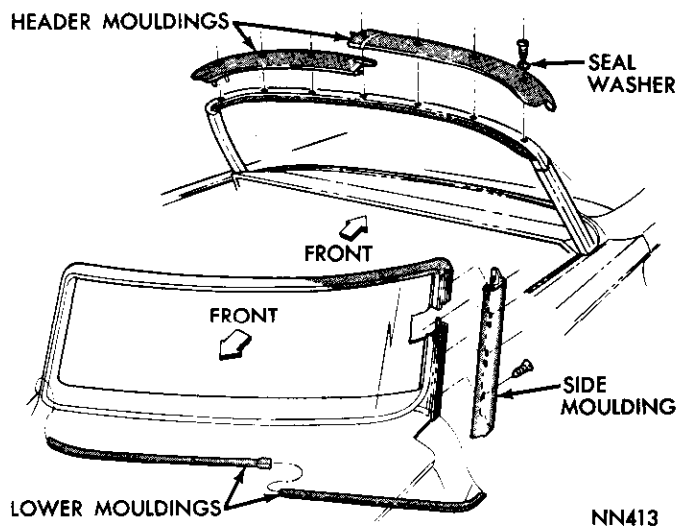

Fig. 4—Windshield Mouldings (Coronet)—(Convertible)
(1) Cover cowl, hood and fender area with a protective covering.
(2) Release top locking mechanisms and push header from windshield frame to expose moulding retainer screws.
(3) Remove wiper arms and blades.
(4) Remove windshield outside mouldings (Fig. 4).
(5) Remove inner "A" post side mouldings.
(6) Remove sun visors and screws attaching header trim cap to header.
(7) Pry header moulding up slightly to clear moulding from weatherstrip, disengage from header and remove.
(8) Remove windshield in same method as other models.
(1) Position header cap moulding up against weatherstrip, force moulding against weatherstrip, and press rear edge down over header.
(2) Install screws loosely to hold in position and lightly tap with a rubber hammer to seat. Be sure cap is evenly spaced across header.
(3) Tighten screws securely.
(4) Water test windshield area.
(5) Install windshield outside mouldings (Fig. 4) and "A" post moulding.
(6) Install sun visor, wiper arms and clean windshield.